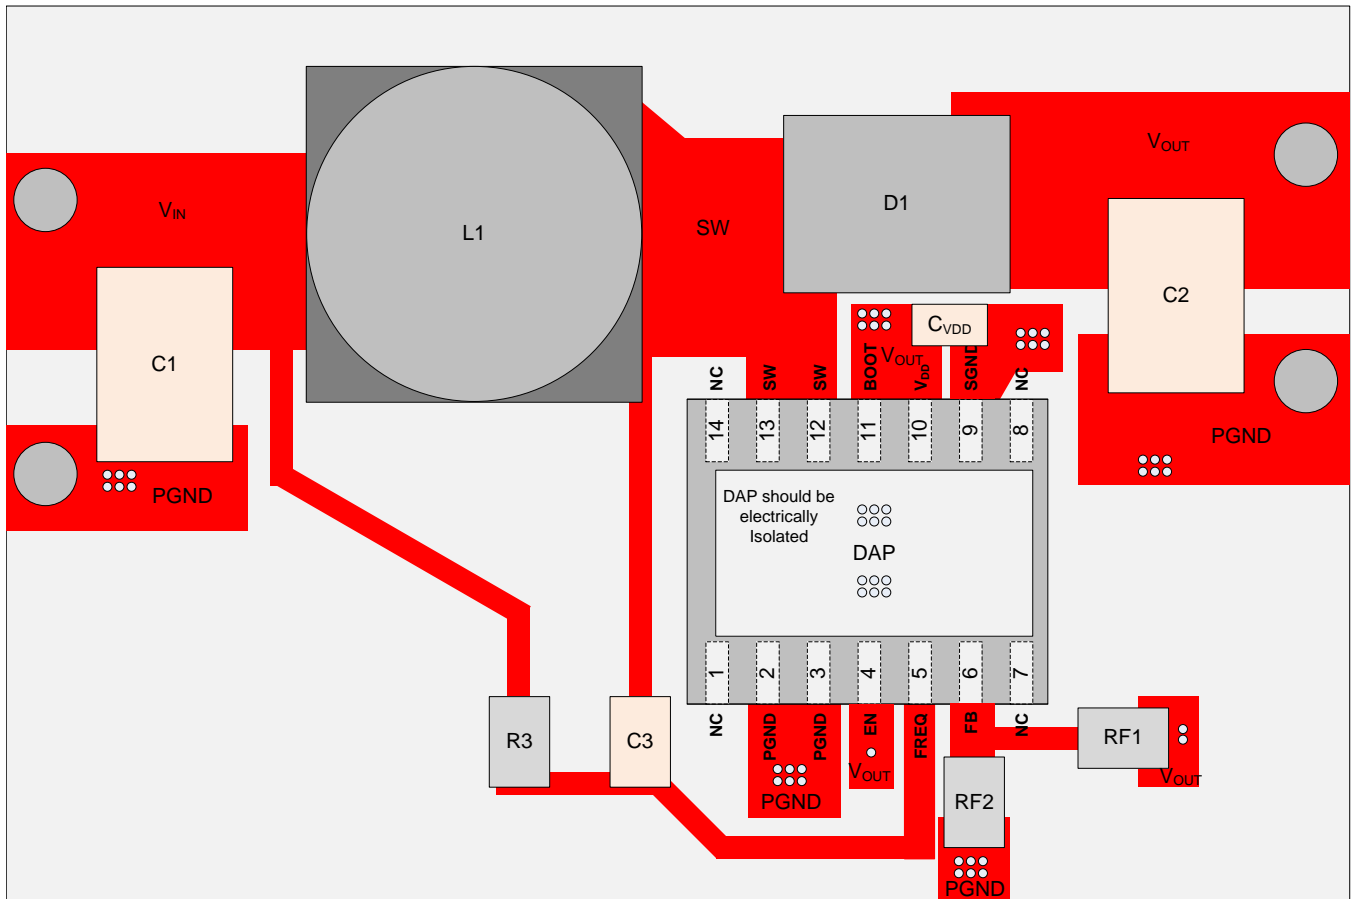

图 12. LM2623-Q1 Layout Example
**Figure 12** follows proper layout guidelines — use as a guide for laying out the LM2623-Q1 circuit. The LM2623-Q1 inductive boost converter sees a high switched voltage at the SW pin and a step current through the Schottky diode and output capacitor each switching cycle. The high switching voltage can create interference into nearby nodes due to electric field coupling ( $I = C \times dV/dt$ ). The large step current through the diode and the output capacitor can cause a large voltage spike at the SW and BOOST pins due to parasitic inductance in the step current conducting path ( $V = L \times di/dt$ ). Board layout guidelines are geared towards minimizing this electric field coupling and conducted noise.